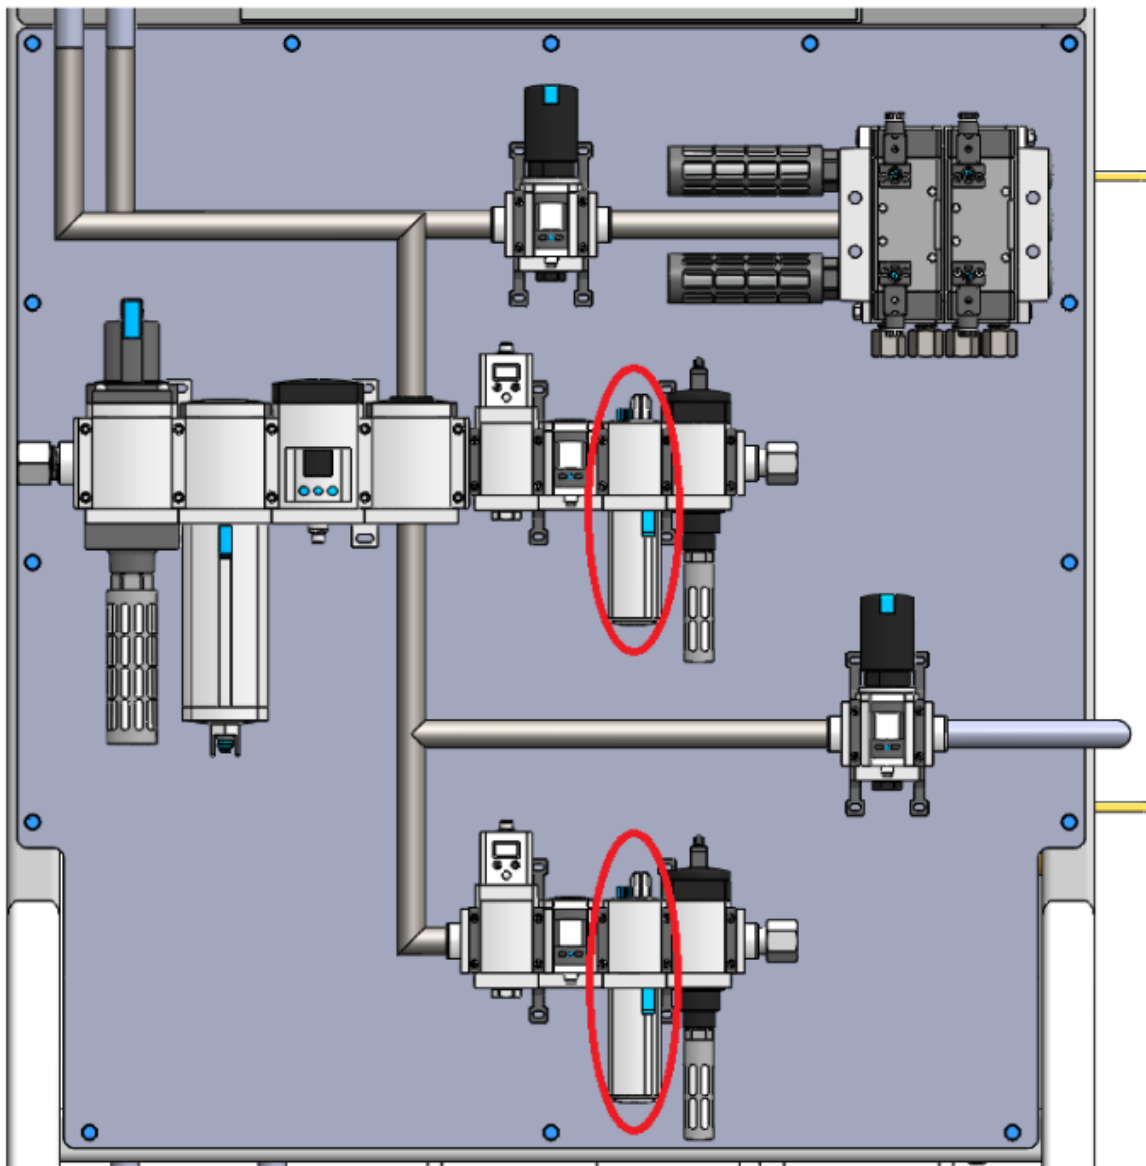

Figure 43: Lubricator location on pneumatic racking
1. Remove the following pieces from the lid: the burner assembly, the two (2) thermocouples, the retaining washers (1060591), the burner nozzle (1063353), the immersion heater assembly (A00-24121-MC-3120) and the two (2) insulation closing plates (1060589 and 1060602).
6. Cut the hole for the burner assembly and the burner nozzle as shown in figure 43.
7. Cut the hole for the immersion heater assembly as shown in figure 43.